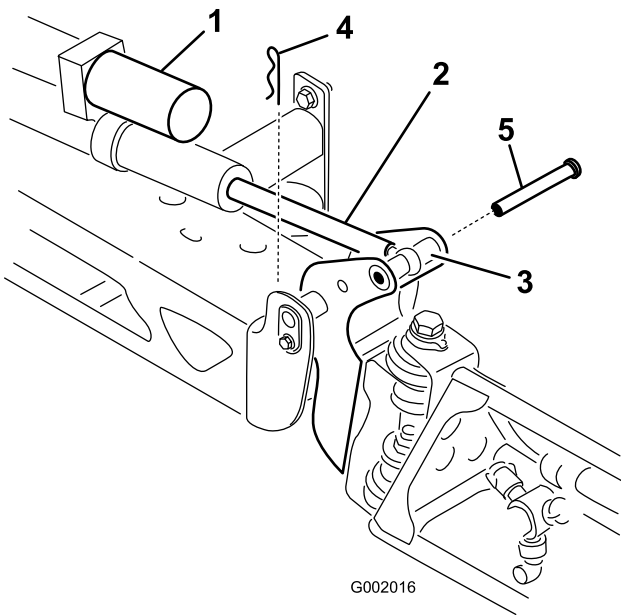

Figure 42
2. Remove the cotter pin from the pivot pin (Figure 42).
3. Lift up on the boom and remove the pin (Figure 42). Slowly lower the boom to the ground.
6. Raise the boom to align the pivot with the actuator rod. While holding the boom, insert the pin through both boom pivot and actuator rod (Figure 42).